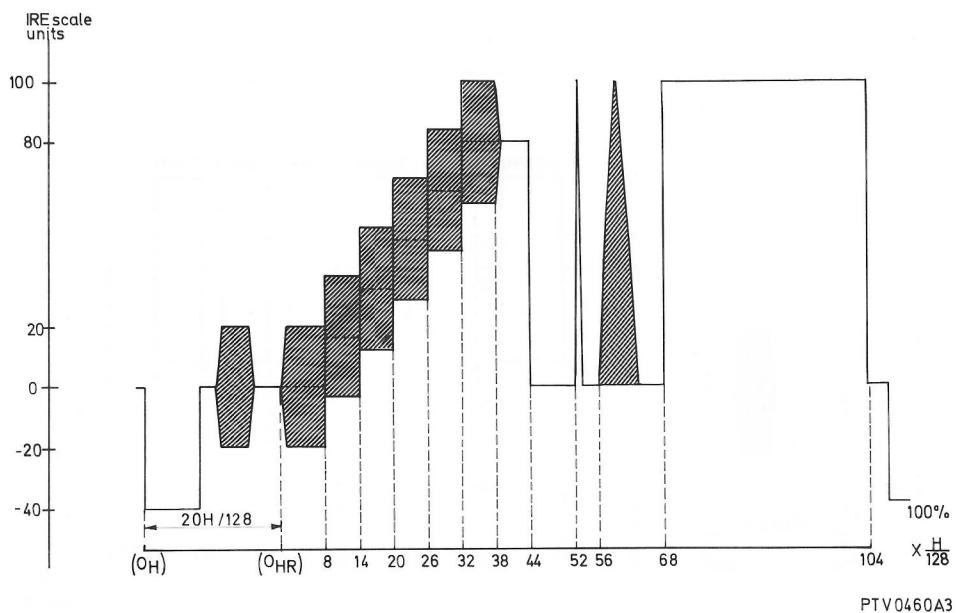

Fig. 3-10 FCC composite
5. (D) FCC composite radiated test signal (See also fig. 3-10)